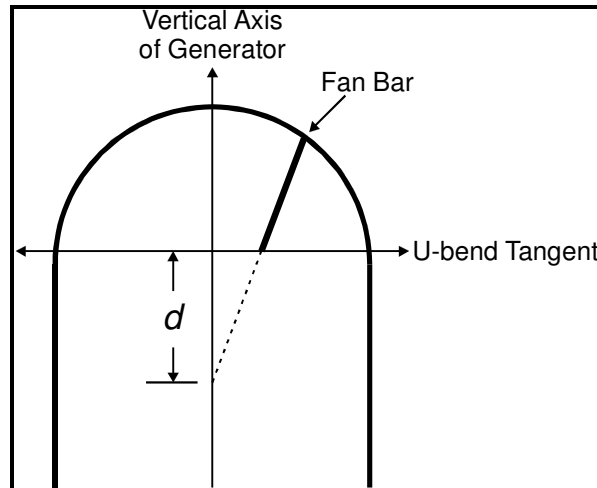

Figure 27. Understanding the Fan Bar Intercept Value
- **FB INT:** Abbreviation for 'Fan Bar Intercept'. Fan bars, like AVBs, are UBEND support structures specifically used in Westinghouse Model CRF-80 steam generators. For each fan bar landmark, enter the distance (d) from the U-bend tangent to the point where the fan bar would intercept the vertical axis of the steam generator for the *first* row where each fan bar is present. This is necessary because the UBEND tangent is not at the same elevation from row to row for this model. The **DELTA** value, discussed later, allows the software to automatically calculate remaining fan bar locations. Review Figure 27 for a better understanding of the value required.